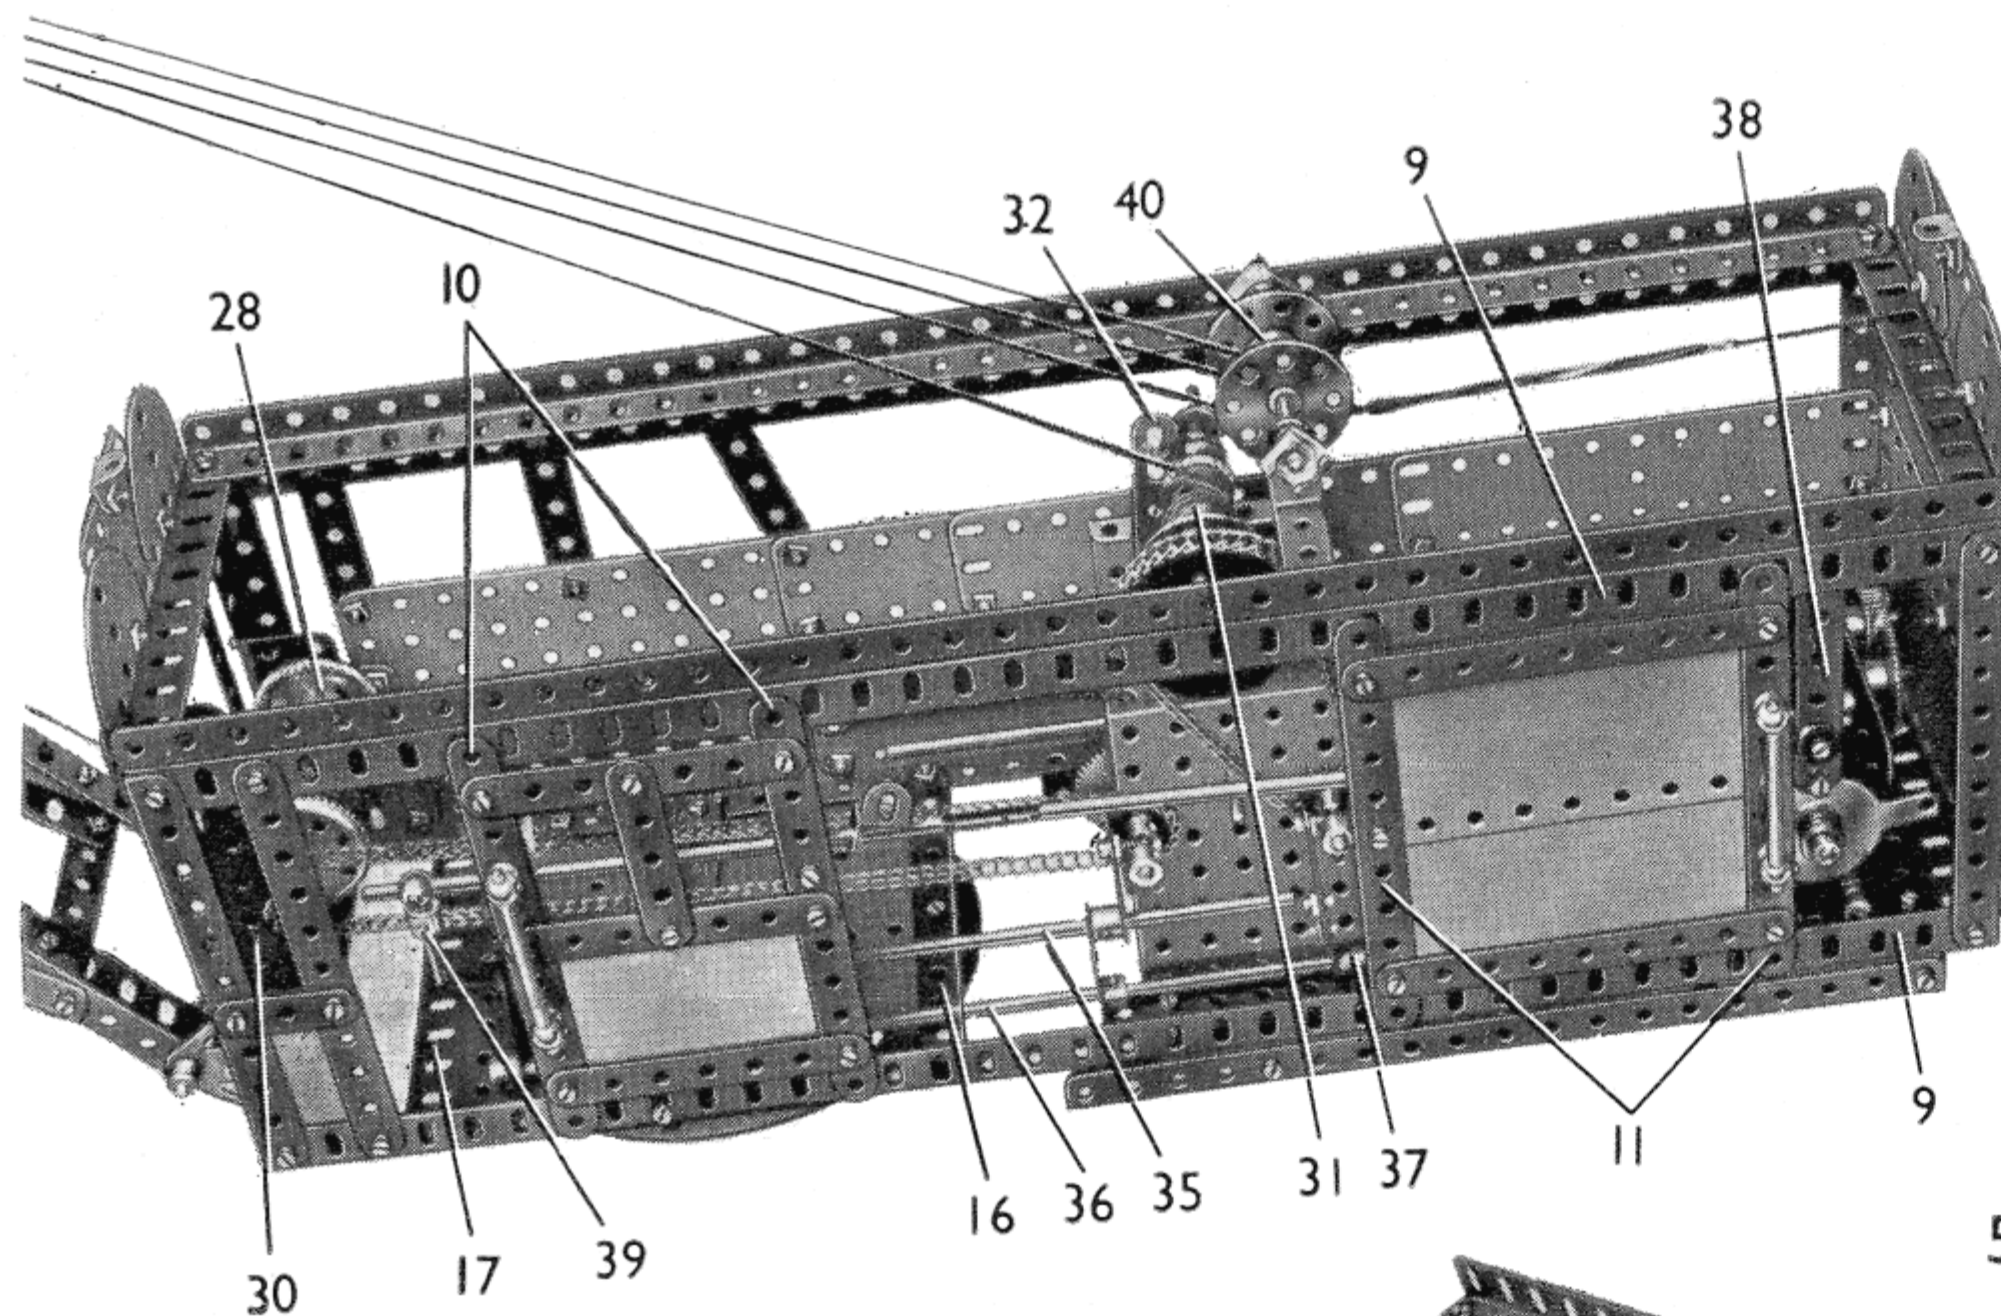

FIG. 8 The sliding doors, and the position of the E15R Electric Motor, can be seen in this view of the cab
The sliding door at the front end is made by bolting a  $3\frac{1}{2}$ "  $\times$   $2\frac{1}{2}$ " Flexible Plate and three  $3\frac{1}{2}$ " Strips between two  $5\frac{1}{2}$ " Strips (10) (Fig. 8.) A  $2\frac{1}{2}$ " Strip and a 3" Strip are attached to each Strip (10), but are spaced from it by a nut on each bolt. The ends of the Strips (10) are arranged in front of the Girders (9), and the 3" and  $2\frac{1}{2}$ " Strips are placed behind the Girders to form guides for the door.
A 3" x 1½" Double Angle Strip (33) is bolted to the Flanged Plate (15) (Fig. 5), and a 2½" x 1½" Double Angle Strip (34) (Fig. 6), is spaced from the 6" Circular Plate by a nut on the bolt that holds it in place. These Double Angle Strips support an 8" Rod (35) and an 11½" Rod (36). Each of these Rods carries at its front end a Crank fitted with a Pivot Bolt that forms a control handle. A Crank (Fig. 8) is fixed on Rod (35), and a ¾" Bolt fixed in the Crank engages between two Collars on the end of rod (25). A Crank (37), extended upward by a 2" Strip fitted with a ¾" Bolt, is fixed on the Rod (36). The ¾" Bolt engages between two Collars on the Rod that carries the Sprocket (27).
A 3½" Strip (38) (Fig. 8) is lock-nutted at its upper end to an Angle Bracket bolted to the upper one of the Girders (9). The lower end of Strip (38) is lock-nutted to an arm of the E15R Electric Motor switch. A Rod and Strip Connector is lock-nutted to the Strip (38), and is fitted with an 8" Rod joined to a 6½" Rod by a Rod Connector. The 6½" Rod is supported by a Corner Angle Bracket bolted to the side of the cab, and it carries a handle (39) formed by a 1" Rod held in a Handrail Coupling.
#### Arrangement of the Jib Luffing and Load Hoisting Cords (Figs. 8 and 10)